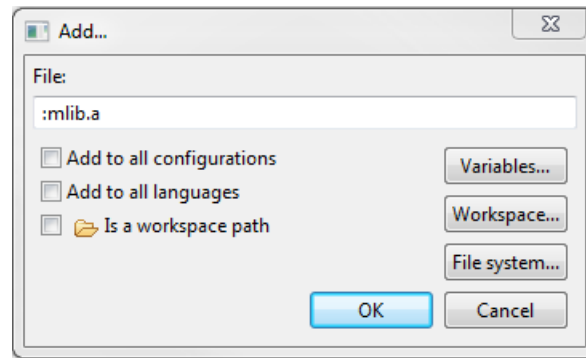

Figure 1-19. Library file inclusion
17. Type the following into the File text box (see Figure 1-19): :mllib.a